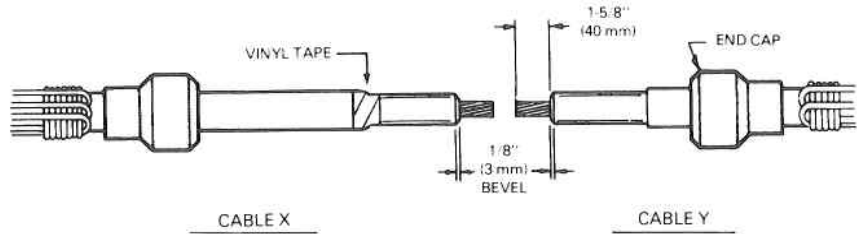

FIG. 2
**B. INSTALLATION PROCEDURES (FIGURES 2, 3 and 4)**